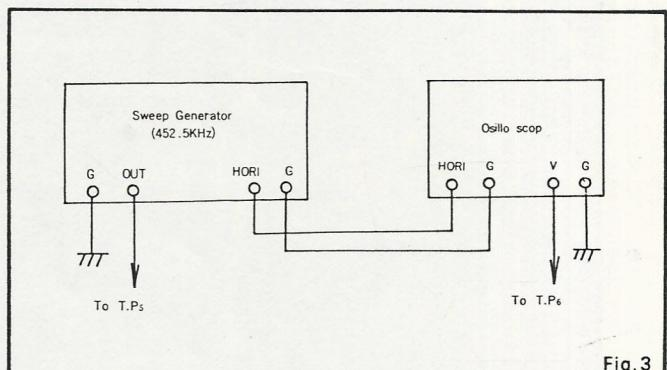

Fig.3
1) Make connections as shown in the above Fig. 3 and set the dial pointer to the right end (maximum frequency point) of the dial, Volume control to maximum and Tone control of maximum.